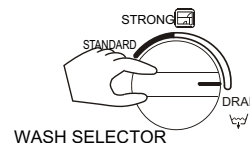

Figure 5
6. After washing, the buzzer will ring. Set the "WASH SELECTOR" at "DRAIN". (Figure 5)